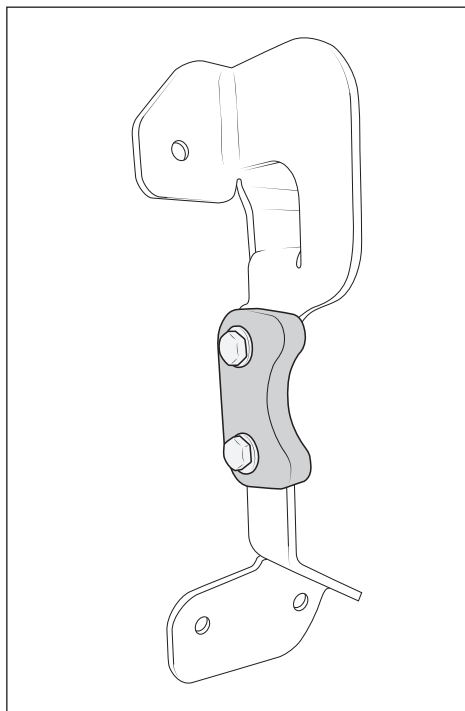

Figure 10
1. Install the plastic Saddle Block using the 3/8" x 1" bolts with 3/8" washers under the head of each bolt. Install the bolts into the holes on the Saddle block. Use the 3/8" Flange nuts on the inside surface of the AEV Tire Carrier Bracket. Adjust the Saddle Block to its MIDDLE adjustment (fig. 10).